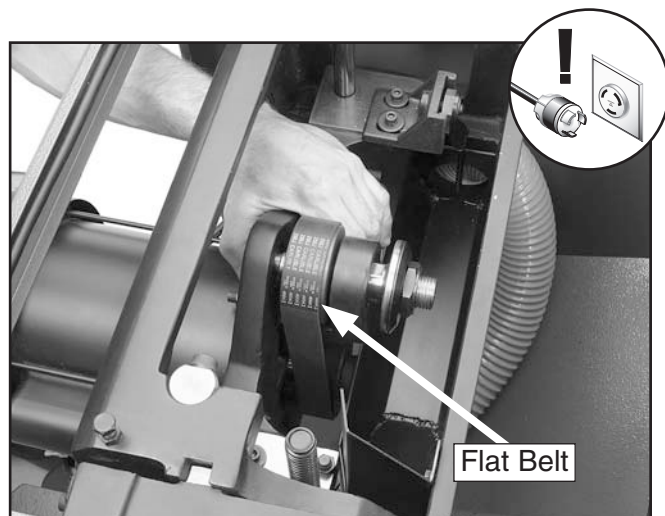

Figure 68. Installing flat belt (table removed for clarity.)
2. Push the belt inward and roll it onto the top pulley. Continue pushing the belt and rotating it up and down (**Figure 68**) until it is centered on both pulleys.